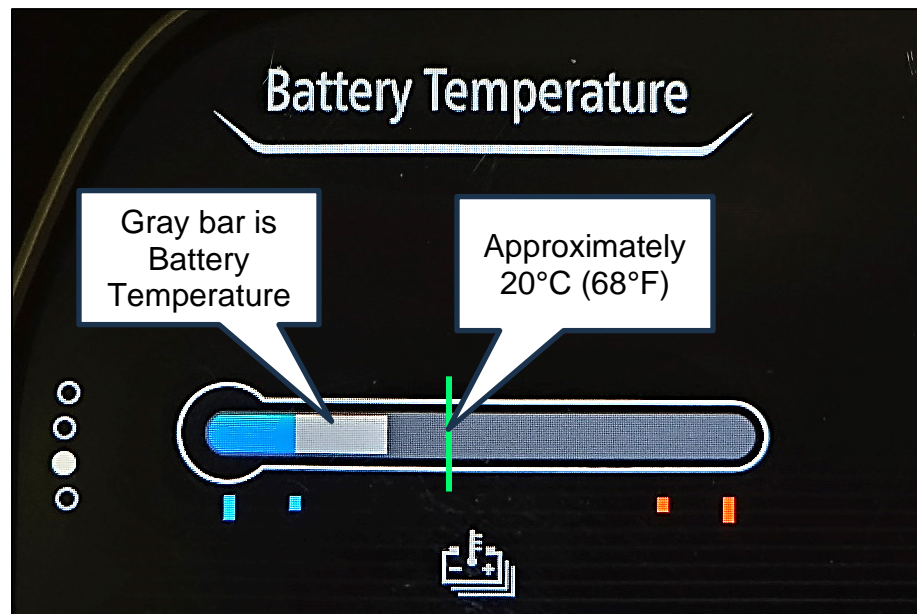

Figure 1
1. Check the HV Battery Temperature as it is displayed in the combination meter (Figure 1).
- If the HV Battery Temperature is below $\sim 20^{\circ}\text{C}$ (68°F) as shown in Figure 1, refer to **Tips for cold climate areas** on page 3 to bring the HV Battery Temperature to $\sim 20^{\circ}\text{C}$ (68°F) or above.
- If the HV Battery Temperature is at or above $\sim 20^{\circ}\text{C}$ (68°F) as shown in Figure 1, continue to step 2.